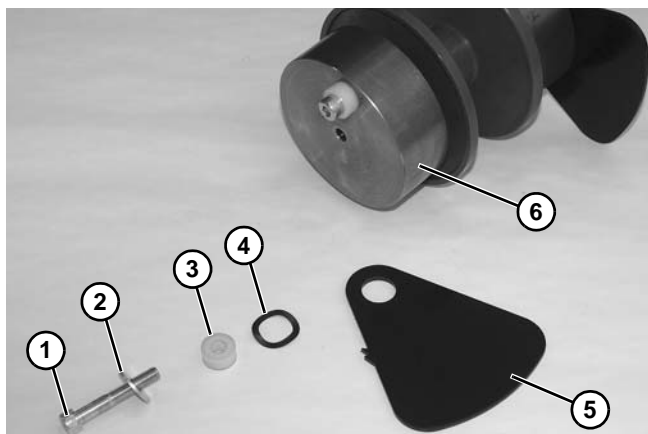

Figure 153
7. Remove bolt (**Figure 153, item 1**), washer (**Figure 153, item 2**), spacer (**Figure 153, item 3**), wave washer (**Figure 153, item 4**), and plate (**Figure 153, item 5**) from end of idler assembly (**Figure 153, item 6**).